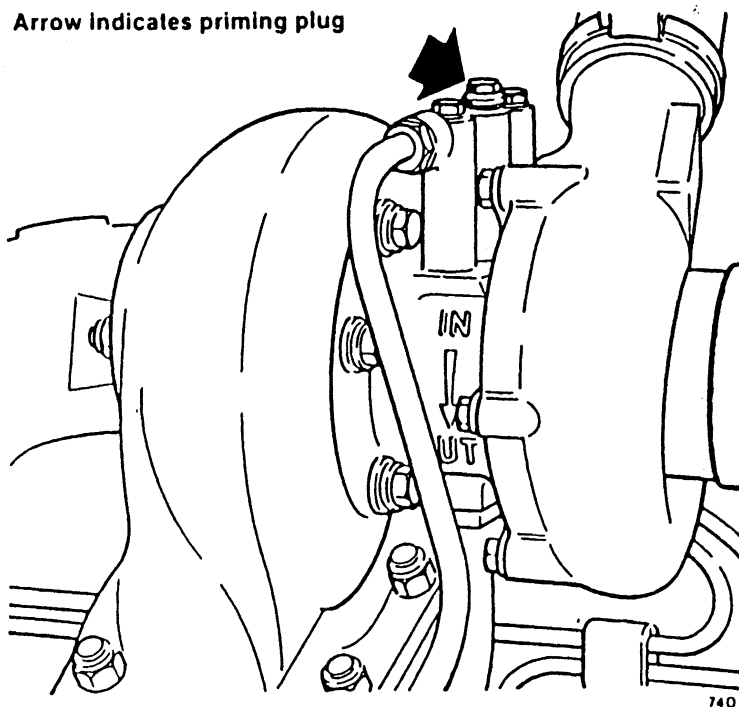

Fig 1 Turbocharger
2. If the engine has not been run for one month or more, it will be necessary to oil prime the turbocharger. To prime turbocharger 50 cm (2 fl oz) of clean engine oil should be added via the turbocharger oil adaptor plug (Fig 1).